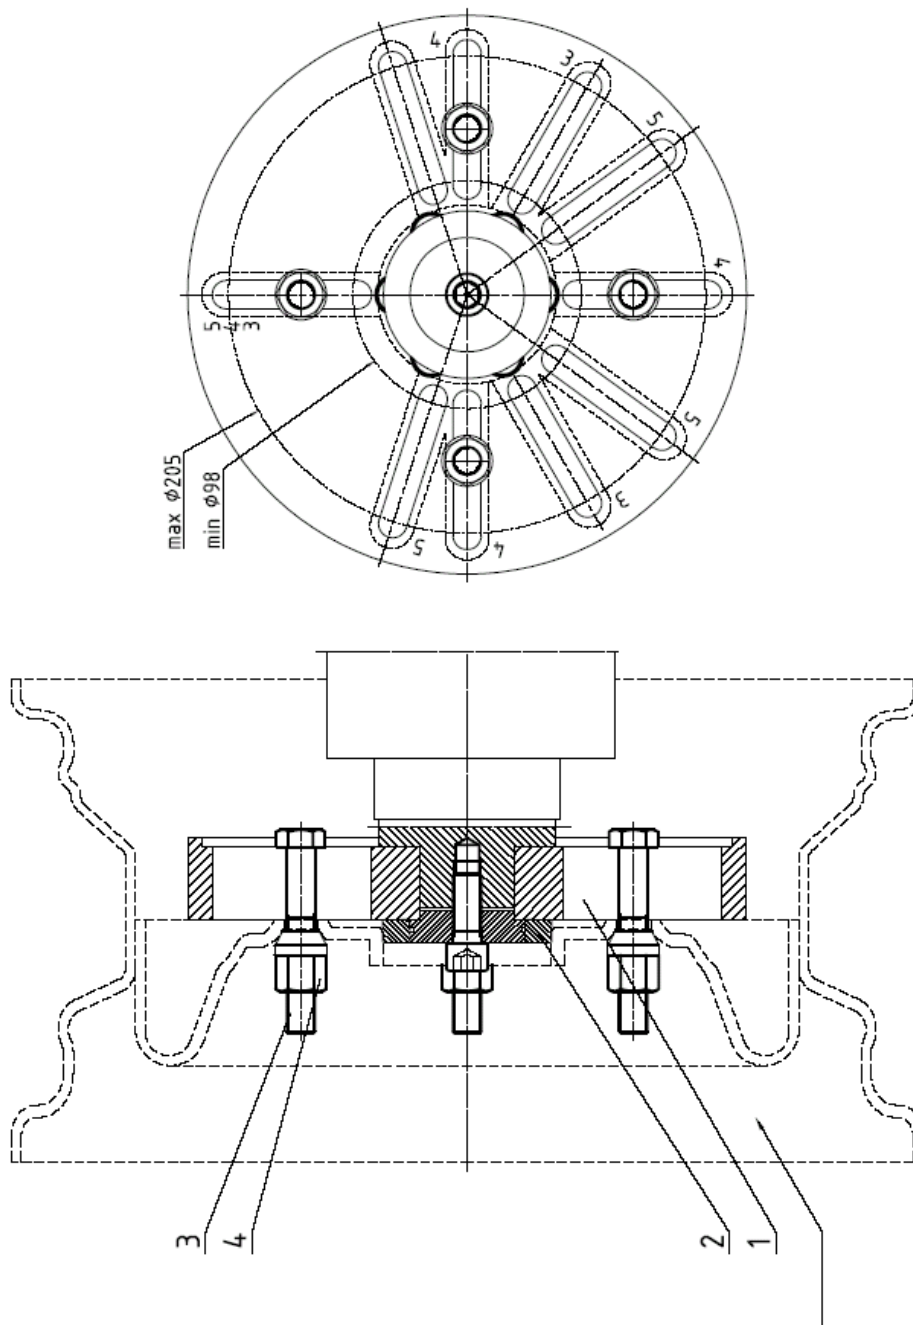

Fig. 4. Machine's spindle with straightened rim
The machine is supplied with the hydraulic system to mount wheel rims. Clamping is carried by the hydraulic servo-motor set in the central position by means of a suitable adapter - figure 4.
11.2 MOUNTING AND DEMOUNTING SYSTEM OPERATION (Figure 4)
- Choose the proper mechanical pressure (Fig.4 no.1) for the rim which is going to be straightened.
- On the spindle (Fig.4 no.2), slide the centering ring (Fig.4 no.3) with the outer diameter adapted to the diameter of central hole of rim.
- Slide the rim until it leans on the flange of adapter (Fig.4 no.4).
- Slide the mechanical pressure (Fig.4 no.1) on the spindle (Fig.4 no.2) until the bolts (Fig.4 no.6) are set in the holes of the screws which fix the wheel to the car's hub.
- Put the washer (Fig.4 no.7) on the spindle (the flat side to mechanical pressure)
- between the mechanical pressure and the nut of adapter (Fig.4 no.8).
- Turn the nut of adapter (Fig.4 no.8) manually.
- Press and hold the button (Fig.2 no.5) on the control panel (Fig.2) until can be possible unscrew the nut (Fig.4 no.8) of adapter.
- Remove the washer (Fig.4 no.7).
- Take off the mechanical pressure (Fig.4 no.1) and then the repaired rim.